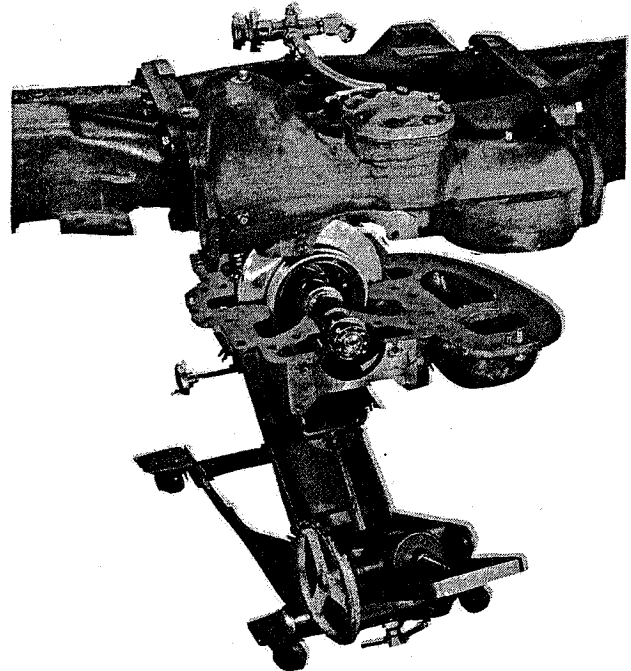
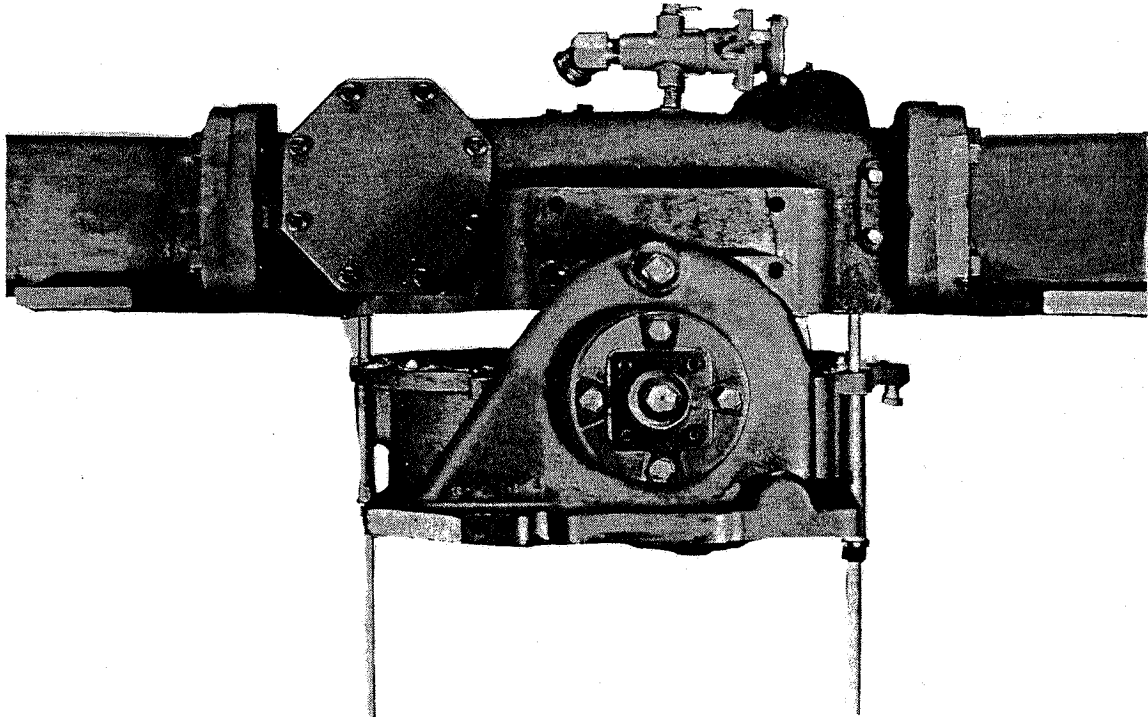

Fig. 3 Lowering Volute Cover with Transmission Jack
Fig. 4 Volute Cover and Impeller Shaft Assembly Suspended from Threaded Rods with W Series Transmission Cap
2. Remove one cap screw (B18) from each corner near dowel-pin locations, and install 1/2-in. threaded rods, hex nuts, plain washers, and pipe nipples (see Fig. 4), or use transmission jack to support cover (B13) (see Fig. 3). Remove all cap screws (B10, B18, and B14), and copper washers (B38) which attach volute cover (B13) to body (B5). Use two of the removed cap screws inserted into the threaded holes next to the dowel pins to jack the cover away from the body.
3. Turn upper hex nuts on threaded rods down evenly to lower the volute cover (B13), or lower the transmission jack. Impeller shaft assembly will come down with cover. (See Fig. 3 and 4.) BALANCE MUST BE MAINTAINED.
2. Remove one cap screw (B18) from each corner near dowel pin locations, and one screw from other corner on transmission end of pump. Install 1/2-in. threaded rods, hex nuts, plain washers, and pipe nipples in these holes as shown in Fig. 4, or use a transmission jack as shown in Fig. 3. Remove all cap screws (B10, B18, and B14), and copper washers (B38) which attach volute cover (B13) to body (B5). Use two of the removed cap screws inserted into the threaded holes next to the dowel pins to jack the cover away from the body.